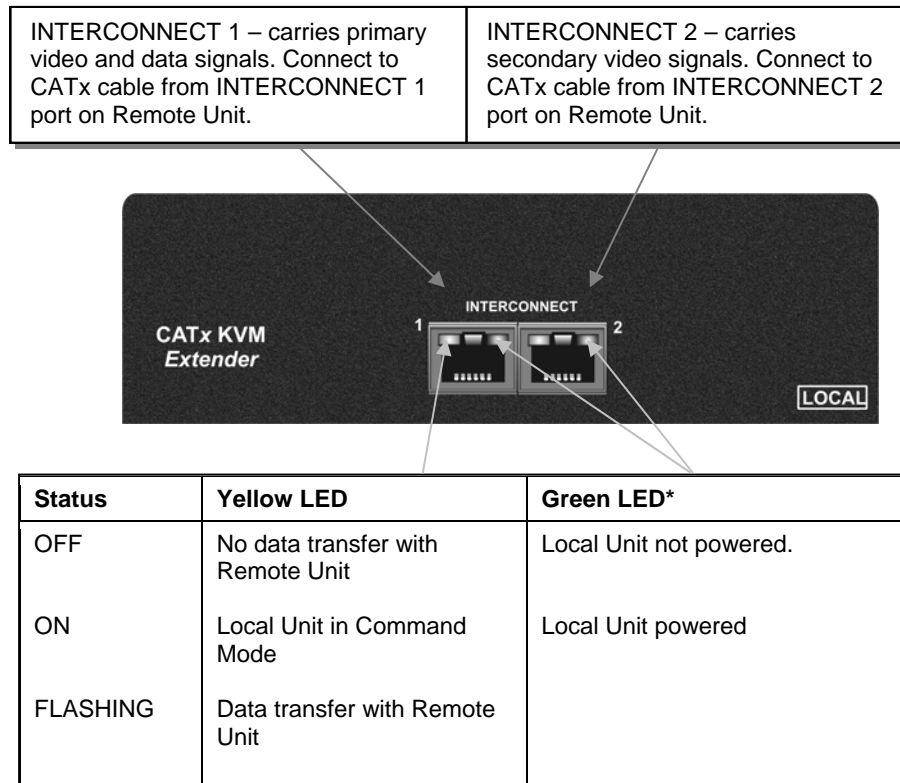

Figure 5 Local Unit – front view
- Illuminates the yellow channel 1 LED continuously (see Figure 5).